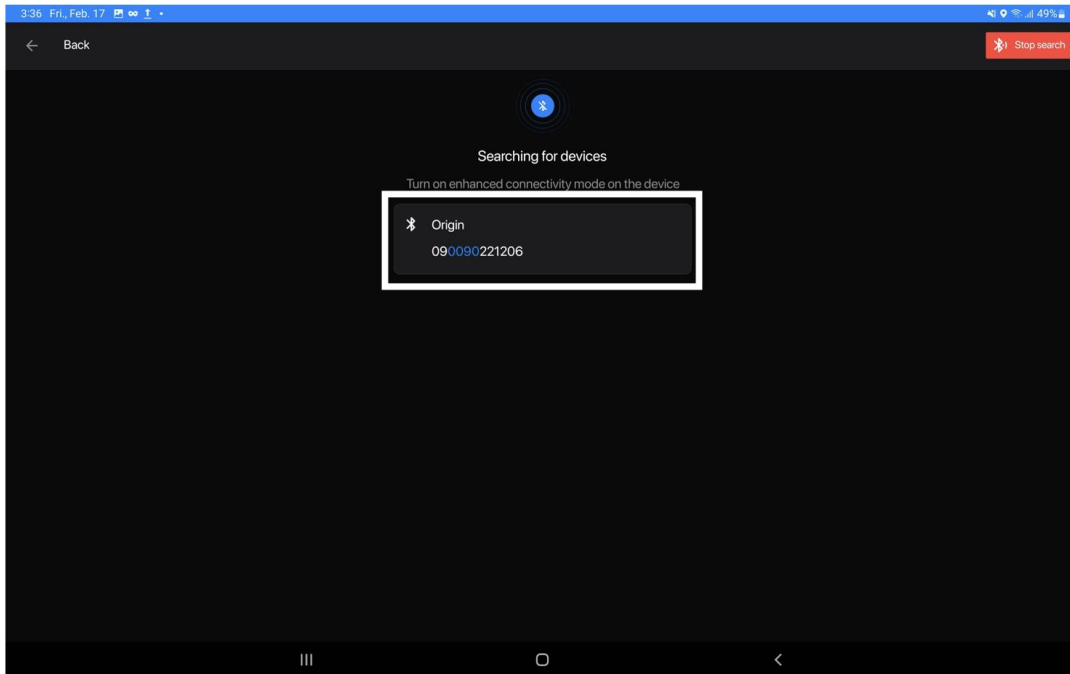

Figure 35: Device Pairing Screen – Bluetooth
Step 2 – On the pairing screen, you will be prompted to pair *Origin™* to *Stream™* via Bluetooth pairing or by scanning the QR code at the back of *Origin™*. A list of nearby operational *Origin™* device(s) will appear on the device pairing screen (**Figure 35**). Select the appropriate device serial number that will be paired to the respective patient.